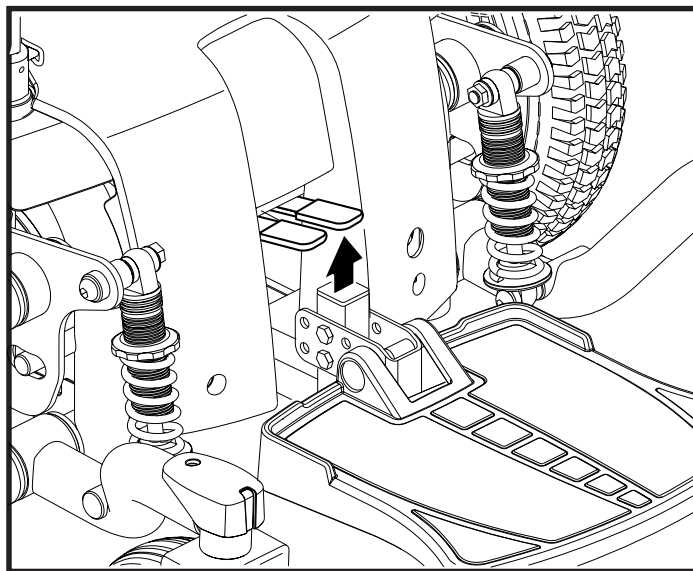

Figure 9. Freewheel Mode (Drive Disengaged)
2. Pull the two levers upward to disengage the drive motors (freewheel mode). See figure 9.